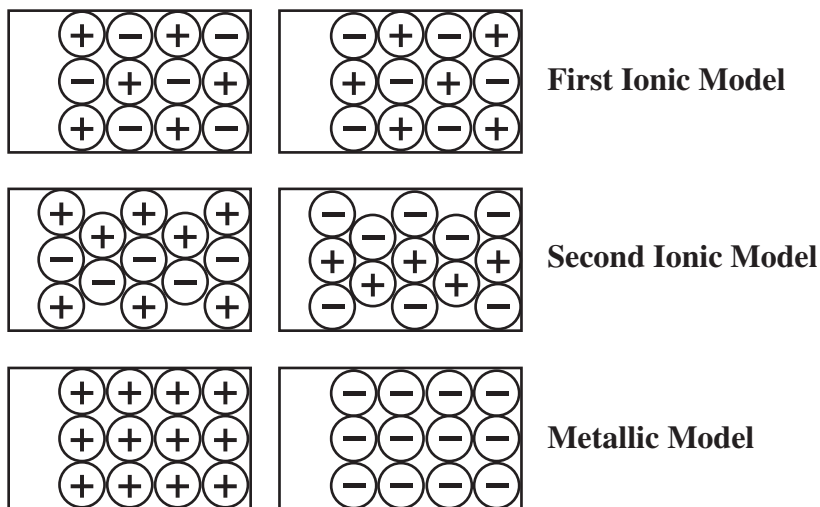

Figure 1.
1. Make the first ionic model by gluing 12 magnets in 3 rows onto a piece of Lucite plastic, alternating the polar orientation of the magnets. Repeat on a second piece of Lucite plastic, taking care to alternate the polar orientation of the magnets in opposition to the first piece (see Figure 1).
2. Make a second ionic model by gluing 13 magnets in a different pattern (ex: alternate a column of three with a column of two) onto a piece of Lucite plastic, alternating the polar orientation of the magnets. Repeat on a second piece of Lucite plastic, taking care to alternate the polar orientation of the magnets in opposition to the first piece (see Figure 1).
3. Make the metallic model by gluing 12 magnets in 3 rows onto a piece of Lucite plastic, with the poles all pointed in the same direction. Repeat on a second piece of Lucite plastic and orient the poles so they are pointed the opposite direction of the first piece (see Figure 1).